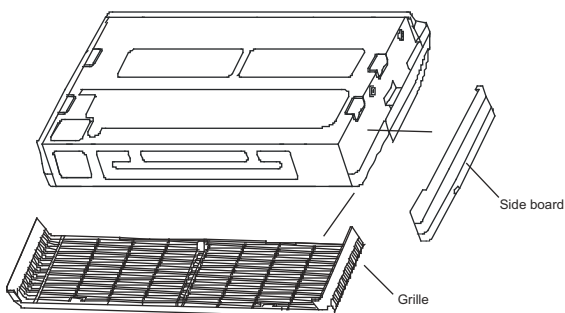

Fig.42-9
1. Remove the side board and the grille. (Refer to Fig.42-9) (For 48000Btu/h and 60000Btu/h models, do not remove the grille.)